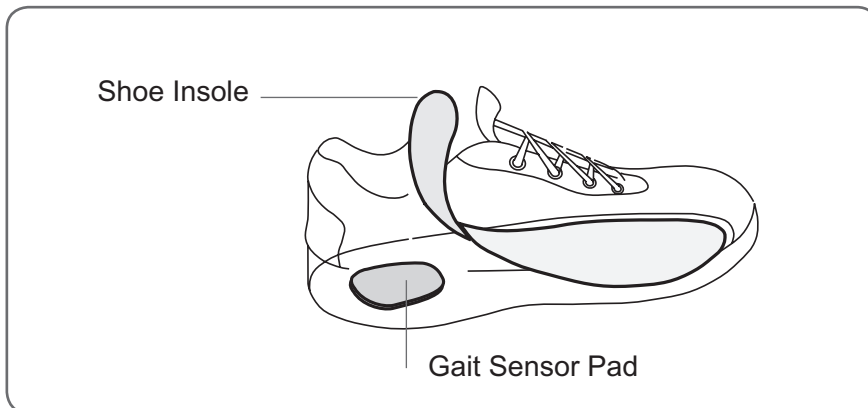

Figure 36: Placement of the Gait Sensor pad.
2. Attach a Gait Sensor pad under the insole, at the heel of the shoe. See Figure 36.